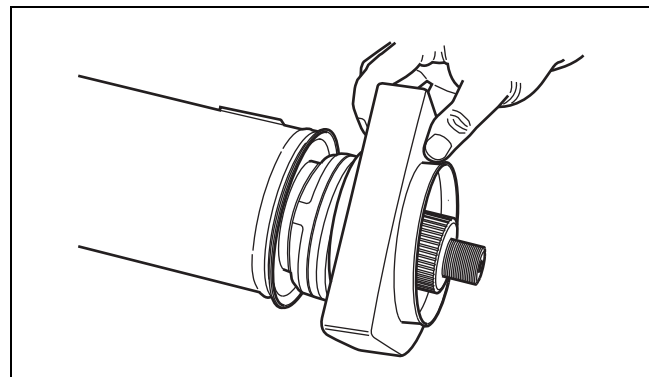

Figure 9.13
- Remove and discard the rubber cushion. Figure 9.13.